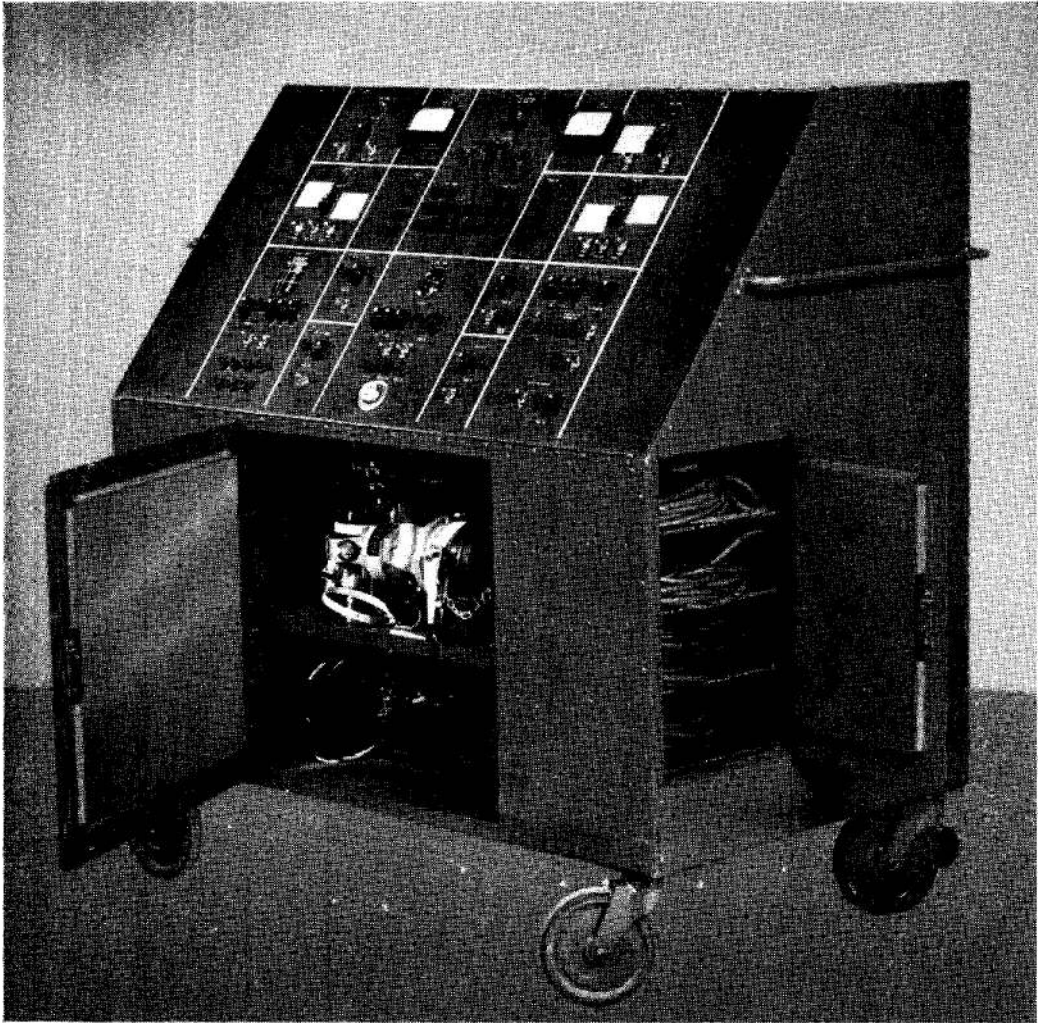

Fig. 1. Miscellaneous systems test console Mk. 2
3. The test console (*fig. 1*) is a light alloy cabinet standing on four wheels, two of which castor, enabling it to be manoeuvred by the handles attached one at each end.